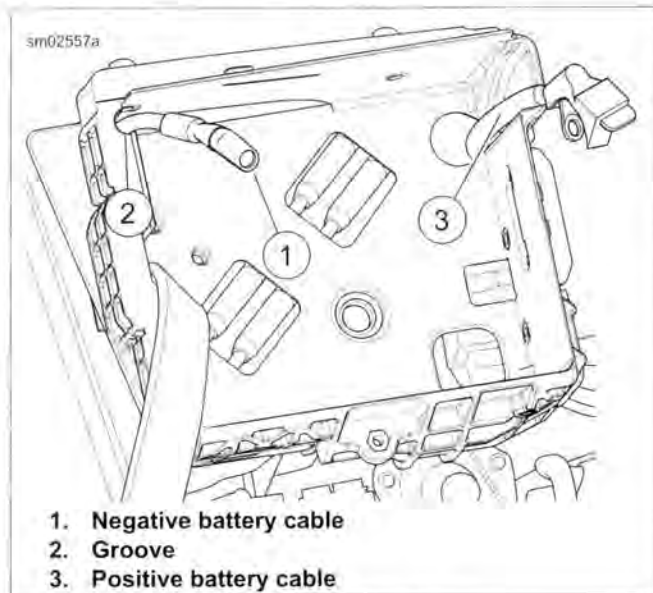

Figure 7-15. Battery Cables
- Guide battery cables through holes in rear of battery tray (3) and place tray in position.
- See Figure 7-15. Place battery cables in recesses at upper corners of battery tray.
- See Figure 7-15. Route positive cable from battery positive terminal through upper front hole in battery tray. Continue to route positive battery cable to starter post on right side of chassis.